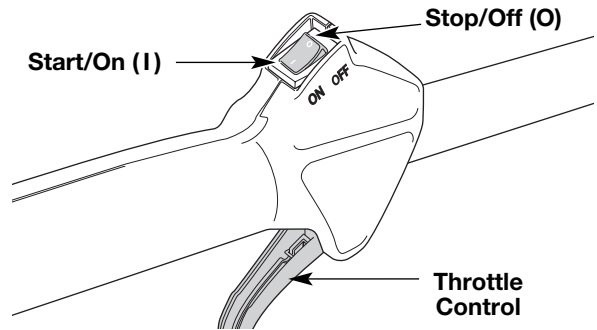

Fig. 9
NOTE: There is no need to turn the unit on. The On/Off Stop Control is in the ON (I) position at all times (Fig. 9).
2. Press and hold On/Off Stop Control in the OFF (O) position until engine comes to a complete stop (Fig. 9).